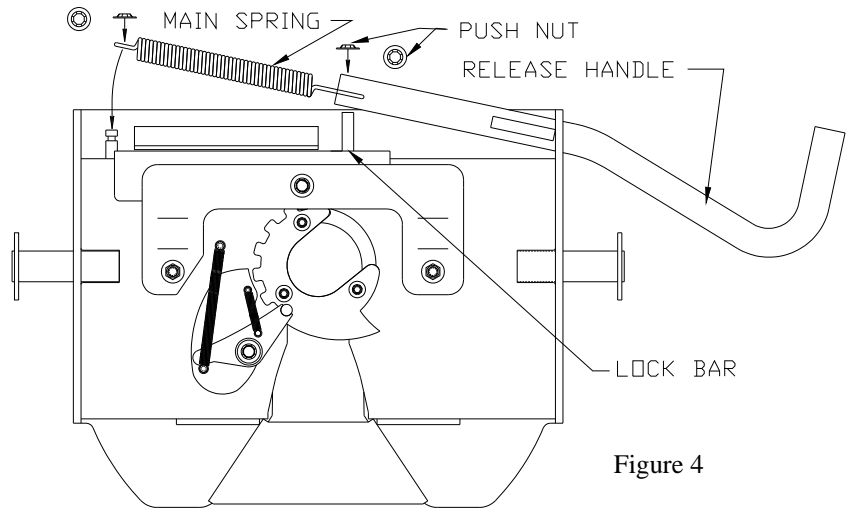
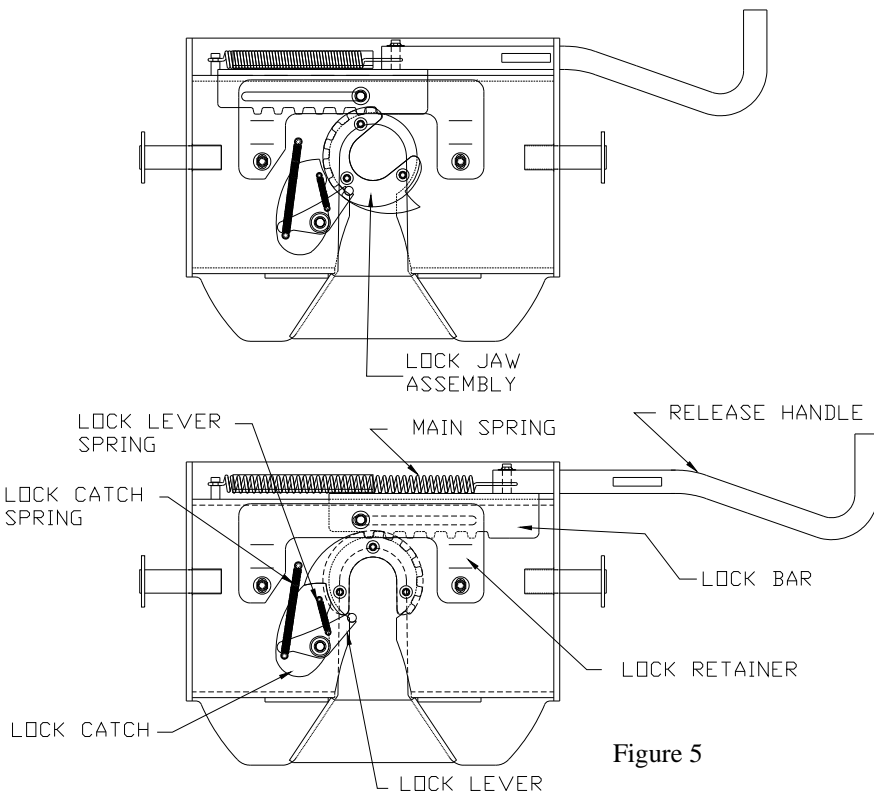

Figure 4
Figure 5
- 4) Attach the **Release Handle** (see figure 4, this page) and **Main Spring** to the **Lock Bar** and secure with the **Push Nuts** as shown.
- 5) Fasten the **Fifth Wheel Plate** (1) in the **Rocker Arm** (4) using two each of the **1/2" Clevis Pins** (2) and **#3 Pin Clips** (3).
Remove the Plate (1) from the Rocker Arm and replace it upside down. Study **(Figure 5 & 6)** and manually operate the Release Handle to better understand the locking action. This will allow you to better understand the hitching procedure and prevent accidentally dropping your trailer due to incorrect hitching.